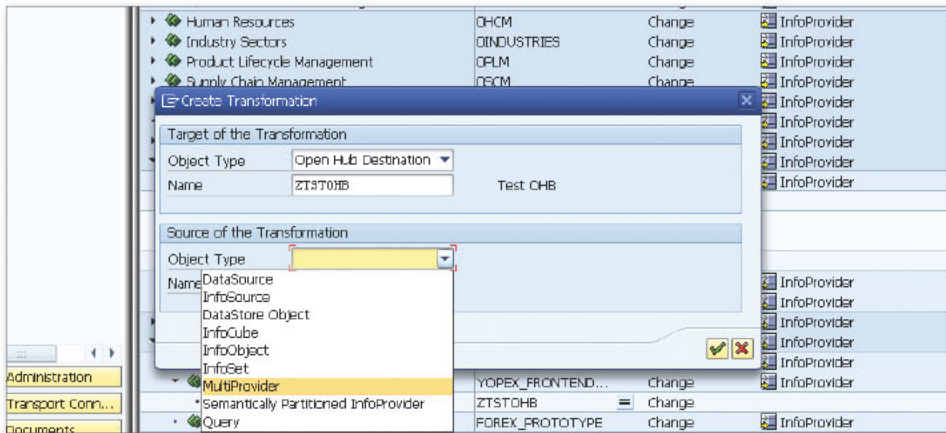

Figure 1 Select MultiProvider
5. On the resulting screen, select MULTIPROVIDER from the OBJECT TYPE dropdown in the SOURCE OF THE TRANSFORMATION section (see Figure 1).